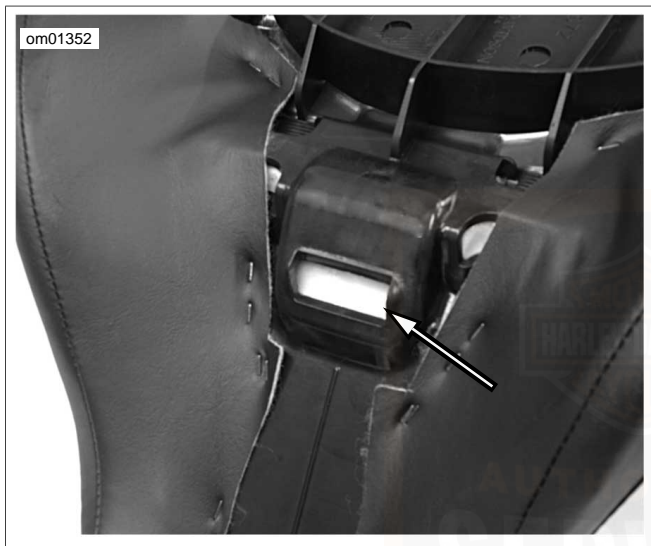

Figure 74. Seat Slot
2. See Figure 74. Firmly push front of seat downward and then forward until slot engages tongue.
1. See Figure 74. Place seat on frame backbone.